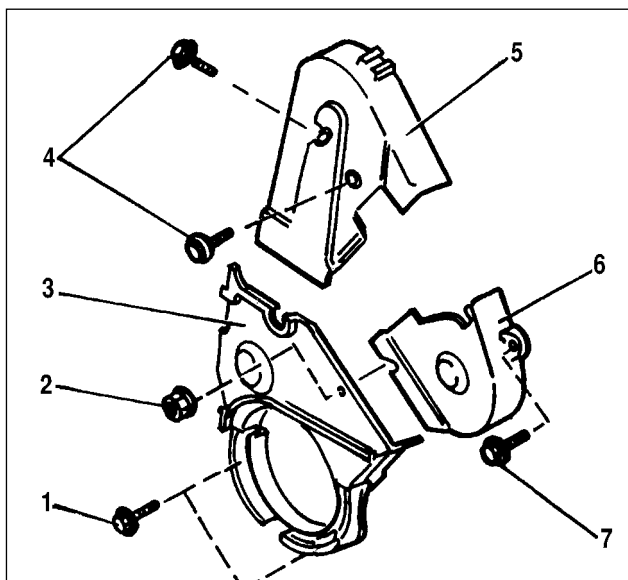

Fig.9-21. Removing and refitting the timing covers:
The cam removal procedure is as follows (Fig.9-21):
- refit bottom cover 3 (Fig.9-21), tighten bolts 1 to 15 N•m;